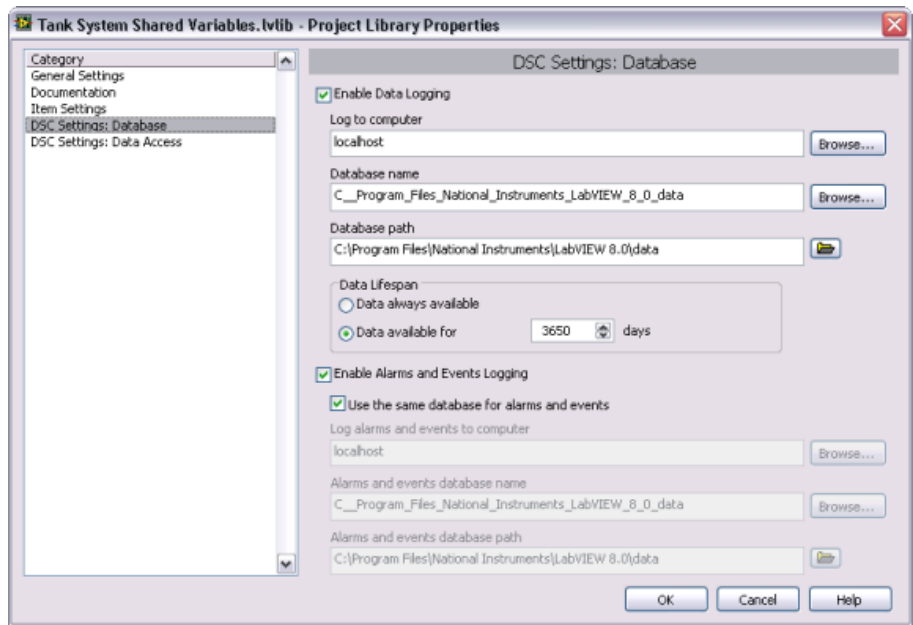

Figure 2. DSC Settings: Database Page of the Project Library Properties Dialog Box
3. Verify that the options in the **DSC Settings: Database** page appear similar to Figure 2.